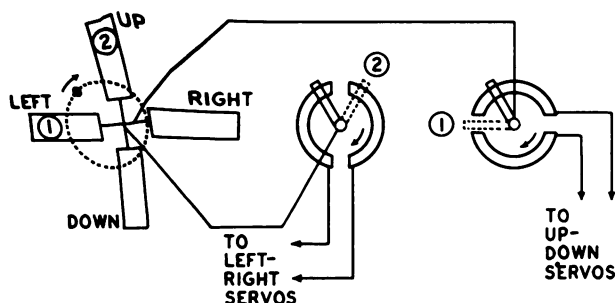

Figure 3J.
54. Which of the bolometer flakes will NOT be heated when the image circle is in the position shown in figure 3J?
55. Which of the bolometer flakes will provide a signal to the missile control circuits when the image circle is in the position shown in figure 3J?
56. Why do the voltages across the bolometer arms shown in figure 3J have no effect on the flight control circuits when the target is dead ahead?